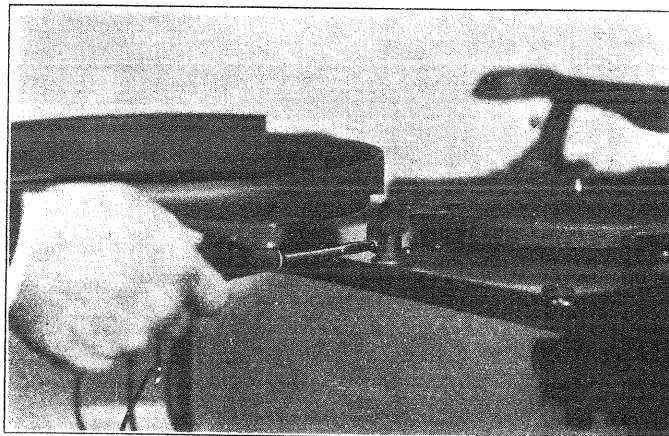

Figure 11—Adjusting Record Locating Plate
- (c) *Improper Setting of Record Locating Plate*—The small plate on top of the motor board at the left side of the turntable should be so adjusted that it will be depressed approximately $\frac{1}{2}$ " when the magazine swings over the turntable. When this adjustment is made correctly, the locating plate will engage the bottom record in the magazine as the latter is swinging back into the playing position. A small adjusting screw and lock nut are provided for this adjustment. (See Figure 11.)